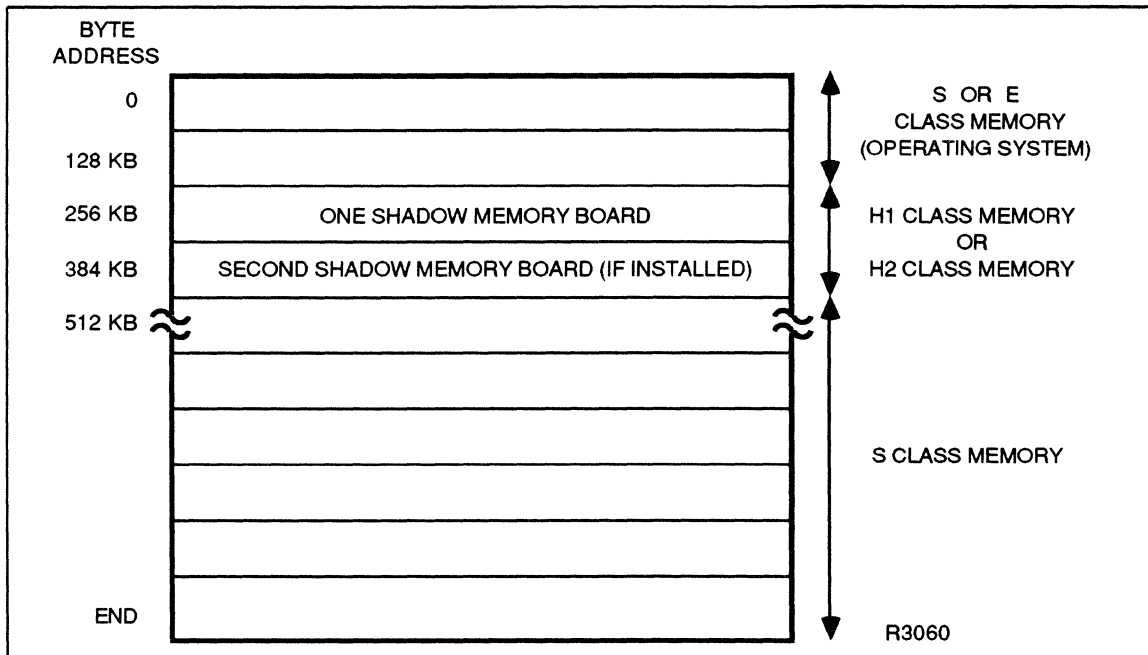

Figure 10-1
- a single processor (IPU or CPU) with a single region of shadow memory. See Figure 10-1.